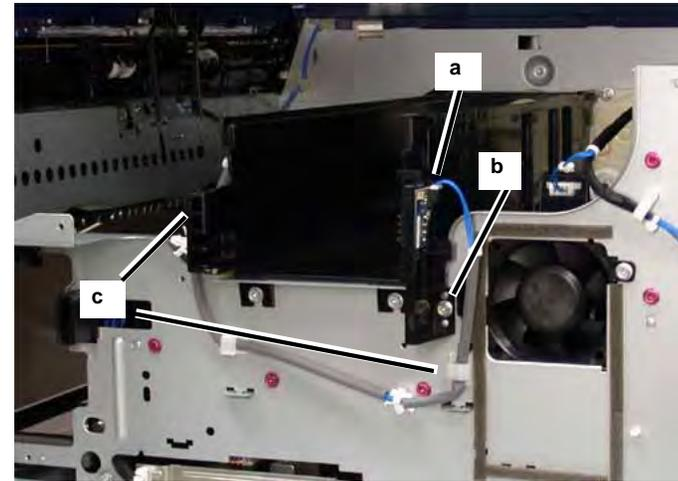

Figure 6 Wires
7. Remove the Toner Cartridge Connector (Figure 6).
- a. Disconnect the PJ (1).